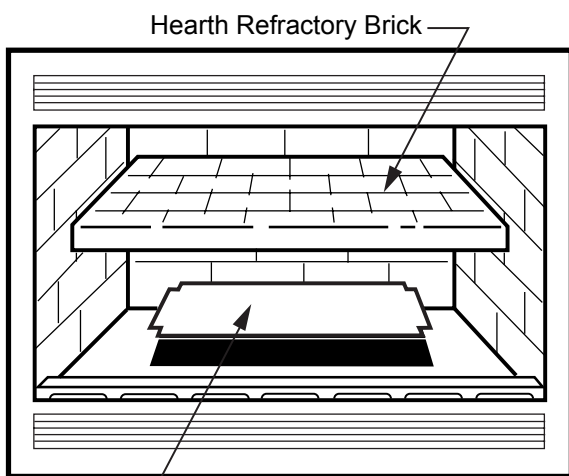

Figure: 8 — Access Panel to Remove
**Models UVFRC-4228, UVFRC-4228-H, UVFRC-3628 and UVFRC-3628-H:** Lift out the bottom refractory panel (Figure 8).
Using a screwdriver, remove the screw from the blower access panel. Slide the panel to the right until the flange clears the opening and remove the panel (Figure: 8).